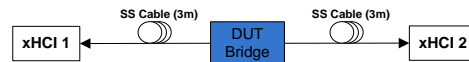

Figure 2-4: PC to PC Bridge Topology
- Connect DUT as shown in Figure 2-4.